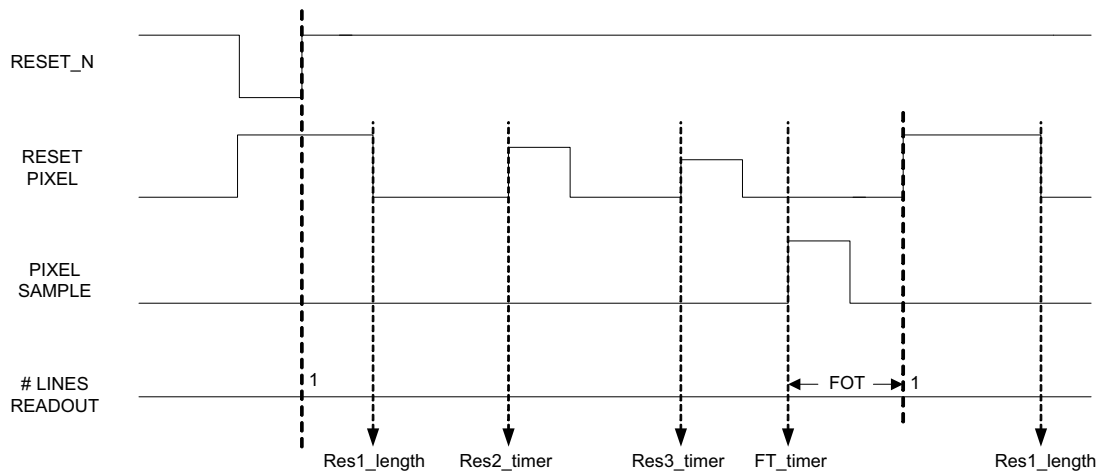
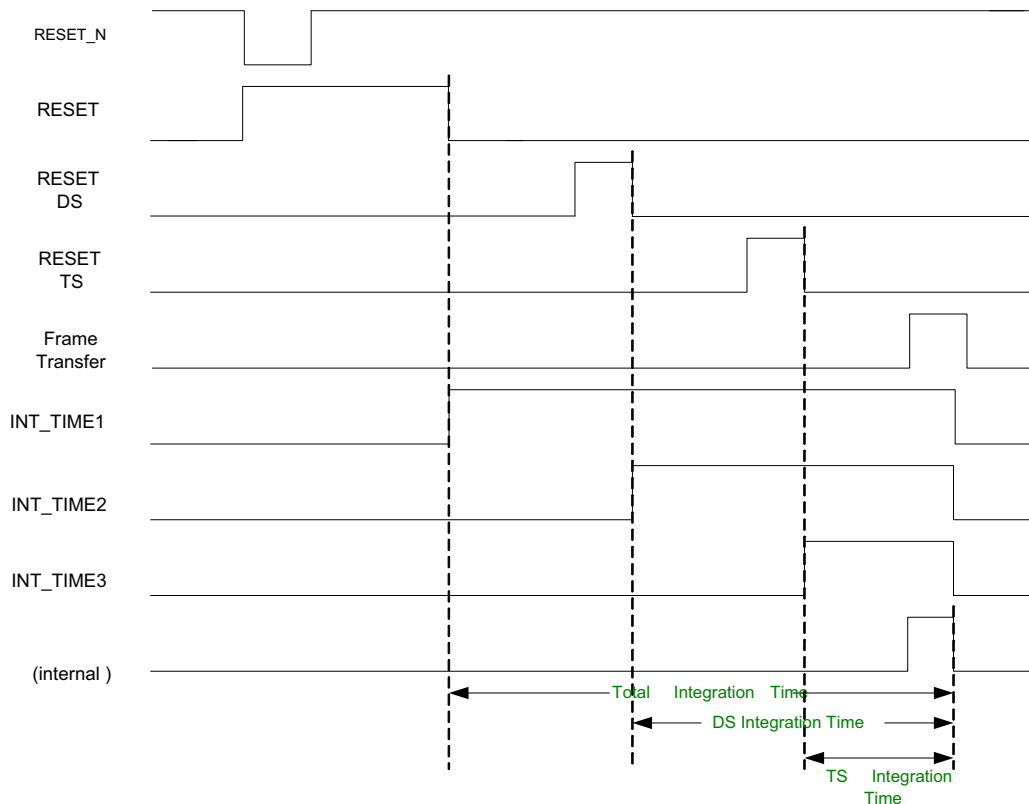

Figure 15. Integration Timing in Master Mode
Figure 16. INT_TIME Timing
In mastermode the integration time, the dual slope (DS) integration time, and triple slope (TS) integration time are set by the SPI settings. Figure 15 shows the integration timing and the relationship with the SPI registers. The timing concerning integration is expressed in number of lines read out. The timing is controlled by four SPI registers which need to be uploaded with the desired number of lines. This number is then compared with the line counter that keeps track of the number of lines that is read out.
The length of the integration time, the DS integration time and the TS integration time are indicated by 3 output pins: INT_TIME_1, INT_TIME_2 and INT_TIME_3. These outputs are high during the actual integration time. This is from the falling edge of the corresponding reset pulse to the falling edge of the internal pixel sample. Figure 16 illustrates this. The internal pixel sample rises at the moment defined by FT_TIMER (see Figure 15) and the length of the pulse is $4 \cdot (12 \cdot (\text{GRAN} < 1:0 > + 1) + 2)$.